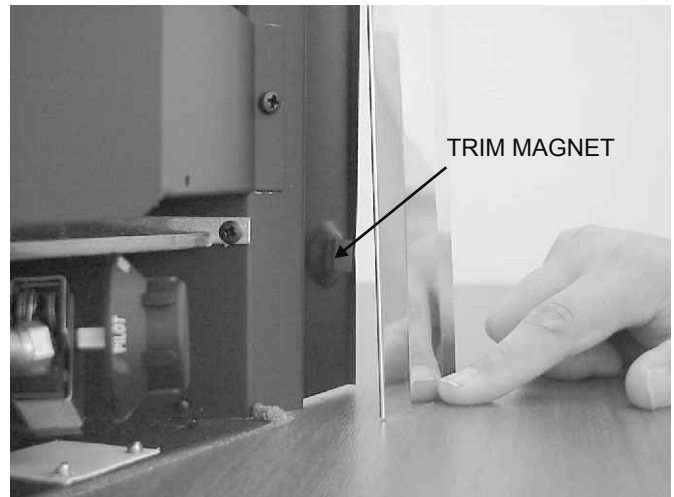

Fig 26.
6. The bottom of the trim is held in place with magnets. Push the bottom of the trim at each side onto the magnets. **NOTE:** If the magnet on either side came away with the trim on removal, transfer it back to the “bump” on the fire before re-fitting the trim. Refer to Fig 26.